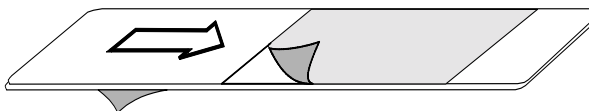

Figure 4-1: Printer cleaning card
- 2 Peel the protective paper backing from both sides of the printer cleaning card (see Figure 4-1).